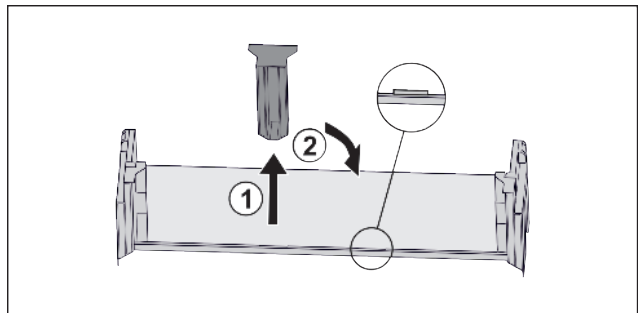

Fig. 16
- ▶ Pull off the middle holder Fig. 16 (1).
- ▶ Insert the middle holder in the second position Fig. 16 (2).